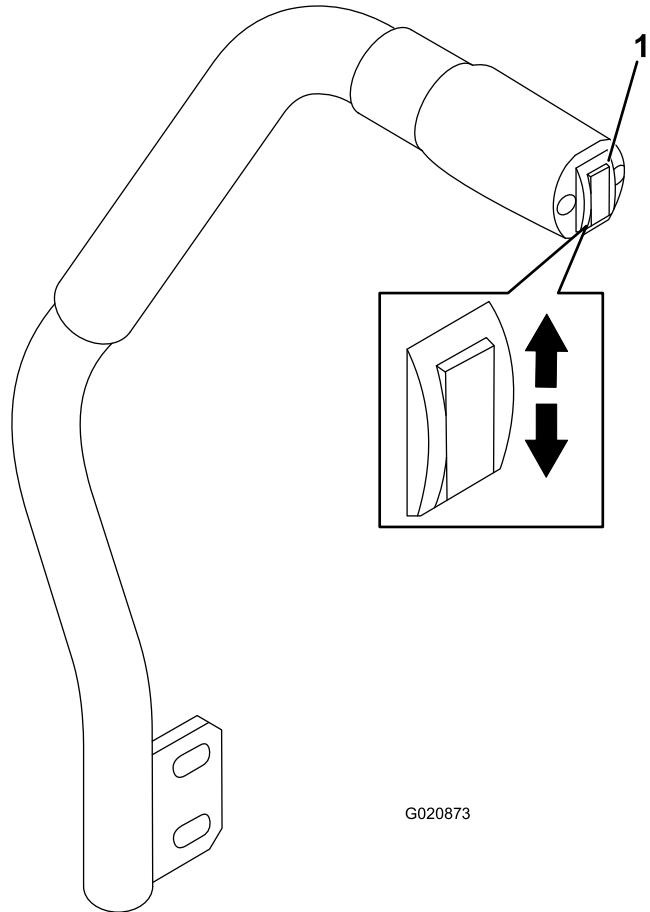

Figure 22
The deck-lift switch raises and lowers the cutting unit (Figure 22). The engine must be running for you to use this lever.
- To lower the cutting unit, push the deck-lift switch down (Figure 22).
- To raise the mower deck, push the deck-lift switch up (Figure 22).
1. With the engine running, push the deck-lift switch up until the cutting unit is fully raised and **release the switch immediately** (Figure 22).